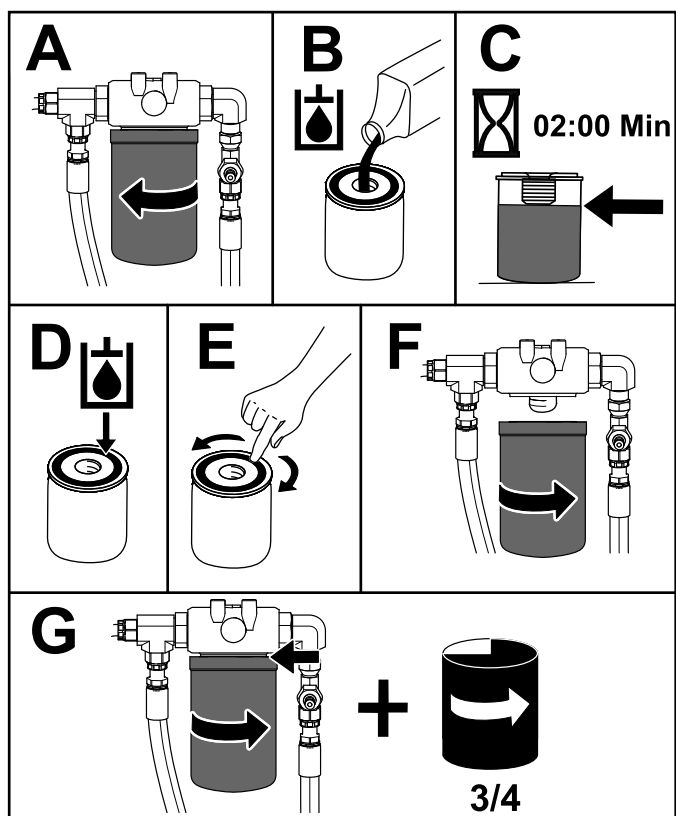

Figure 76
9. Place a drain pan under the rear filter and replace the filter (Figure 76).